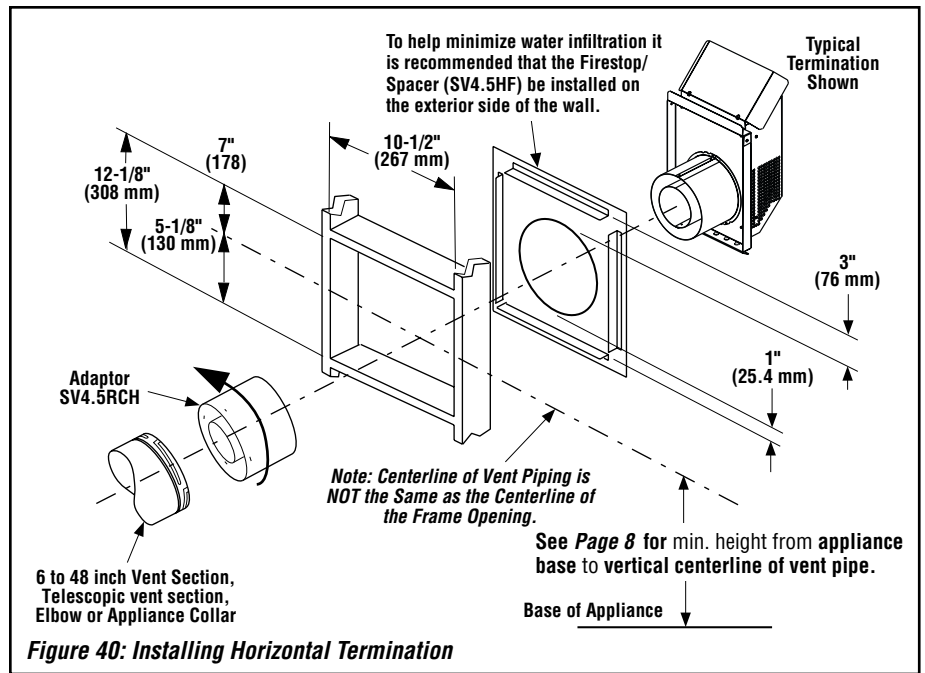

Figure 40: Installing Horizontal Termination
a) If not already done, prepare an opening as described in **Figure 40**.
b) Assemble the vent system to the point where the end of the last section is within 5 to 8-1/2 inches (127 to 216 mm) inboard of the exterior surface to which the termination will be attached. See **Figure 40 and 41**.
See **Figure 40**. Install the **firestop/spacer** over the opening at the exterior side of the framing, long side up, with the 3-inch spacer clearance at the top, and nail into place. (The firestop/spacer also may be installed over the opening at the interior side of framing).